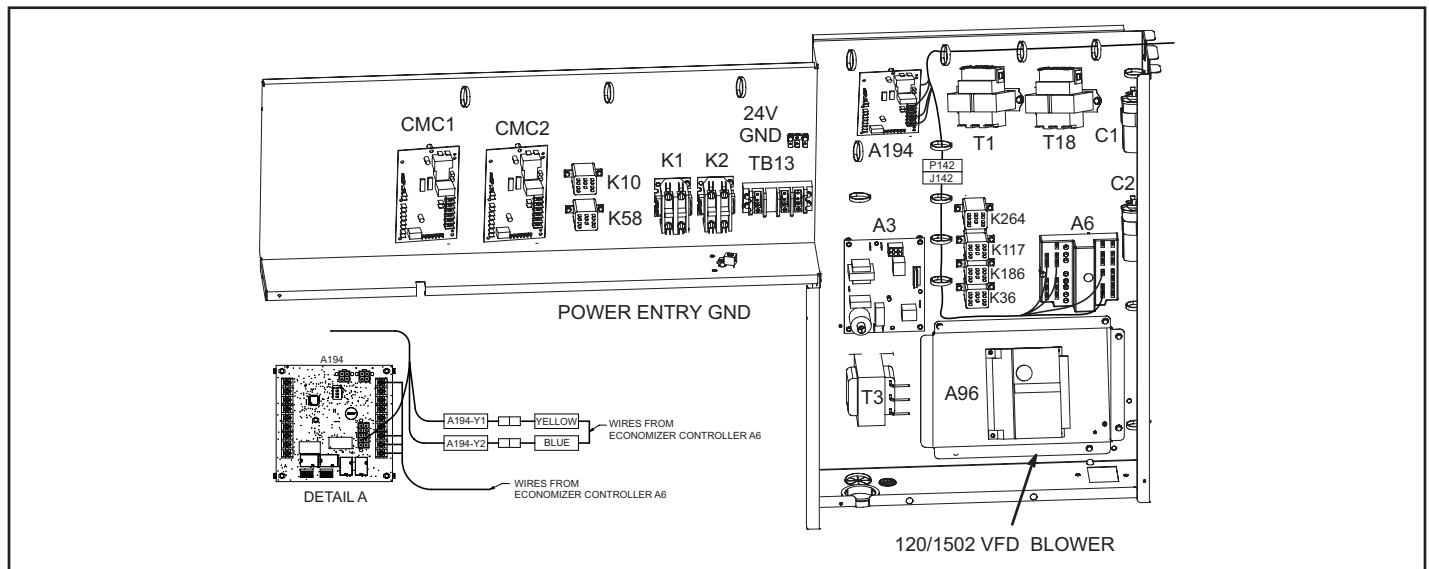

FIGURE 23
- 1 - The economizer control module is located below the actuator for shipping. Relocate the control to the unit control box, see FIGURE 23.
- 1 - Route the control wires to refrigerant detection board (A194) and connect these wires to the A194 board as following (see FIGURE 23):